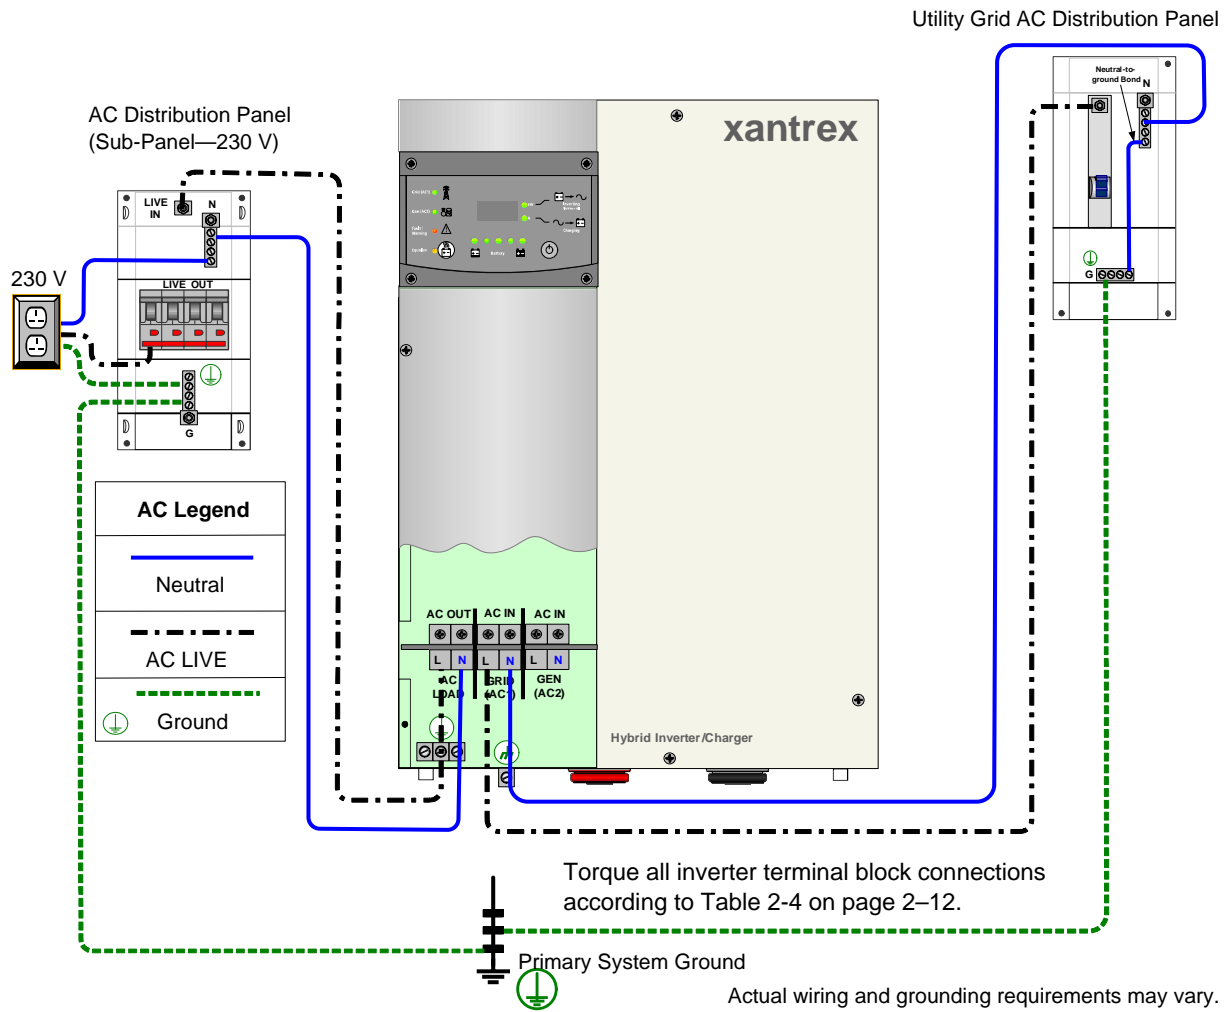

Figure 2-14 Wiring the XW Inverter/Charger to the Sub-panel and Utility Grid
1. See Figure 2-14. Connect the neutral wire from the inverter panel neutral bus to the N-LOAD terminal on the inverter.
1. See Figure 2-14. Connect the neutral wire from the utility grid AC distribution panel to the inverter GRID (AC1) neutral terminal.